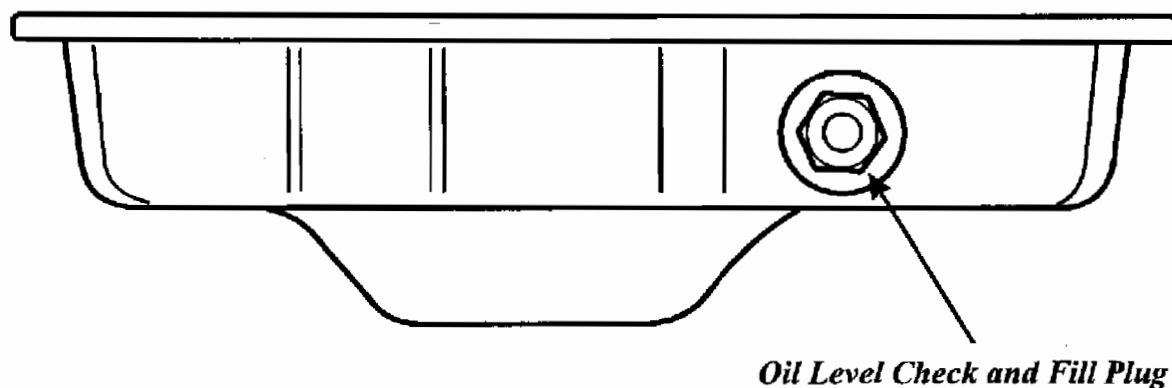

Figure 3
- (1) **BOTTOM PAN** - New design is approximately 17mm deeper than the regular pan, and all three bottom pans used in 1998 models are illustrated in Figure 3 for identification purposes.